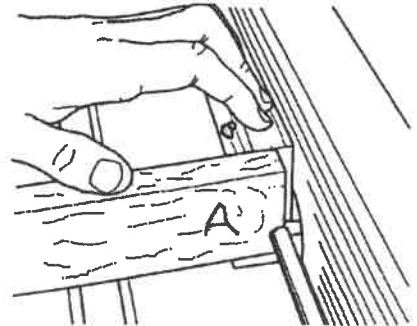

Fig. D-22
5. Place workpiece "A" against the end of workpiece "B", clearing the bit. See Fig. D-22.